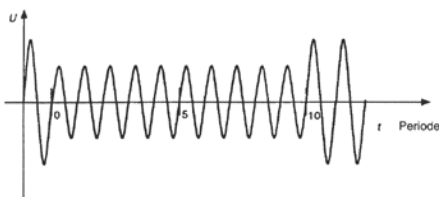

Fig.1: Voltage dips
Voltage dips: The switching between the rated voltage U_1 and the variable voltage U_2 (U_2 always $\leq U_1$) is always erratic. It can be set at each phase angle of the mains begin or end. The standard test is defined at 40%, 70% and 80%. This test requires the injection of the same phase voltage U_2 at the rear of the device. A step transformer (VIS 740) fulfilled the standard requirement. **Fig. 1**
- ◆ Voltage dips (fig. 1) Voltage fluctuation (fig. 2) AC max. 16 A